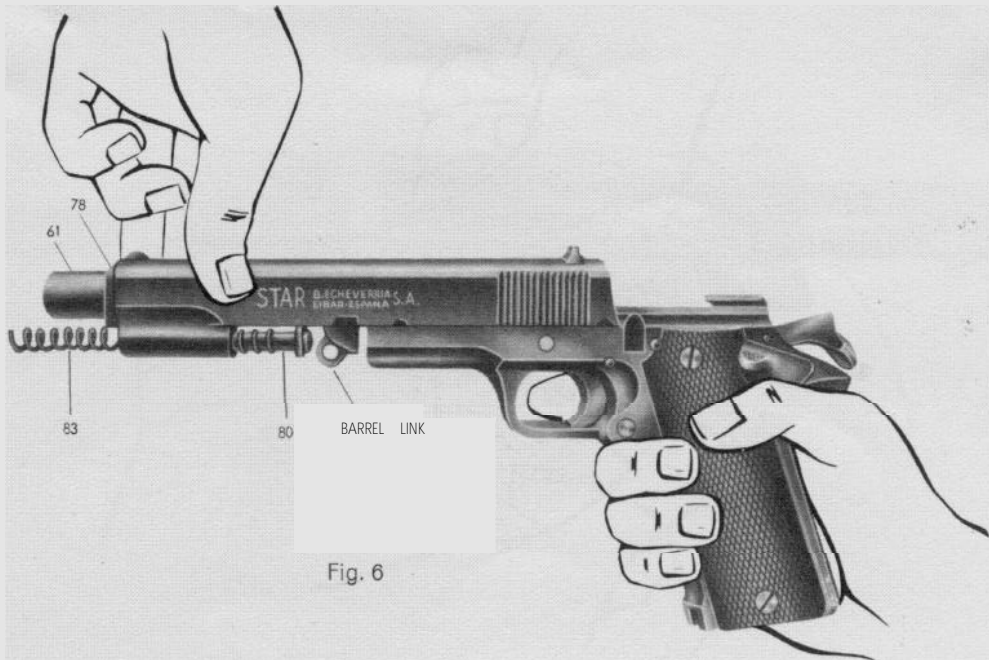

Fig. 6
4. As this slide stop is the medium by which the barrel link and slide are locked to the frame, withdrawing it releases the barrel and slide assembly, which may then together be drawn from the frame, carrying also the recoil spring, recoil spring guide and barrel bushing. (See fig. 6).